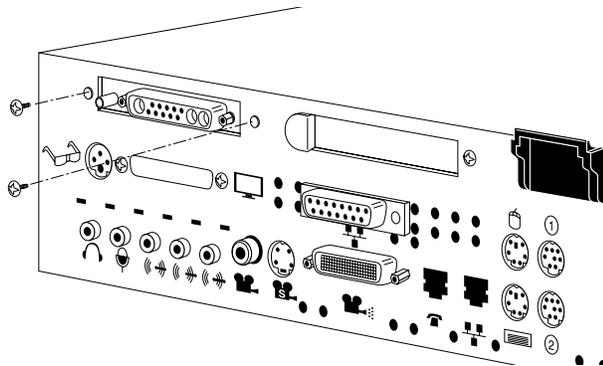

Figure 1-13 Removing the Exterior Screws for the X Board
2. On the rear of the workstation, remove the two Phillips screws in the locations shown in Figure 1-13.